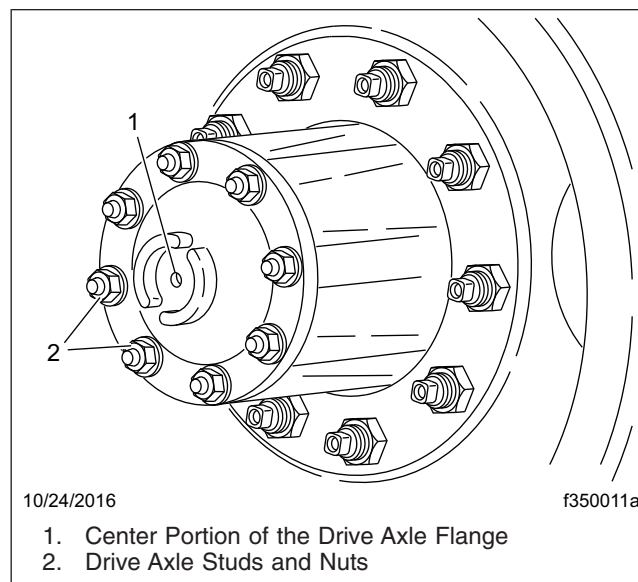

Fig. 5, Wheel Assembly and Hub
3. Remove the drive axle stud nuts and washers. See Fig. 5.